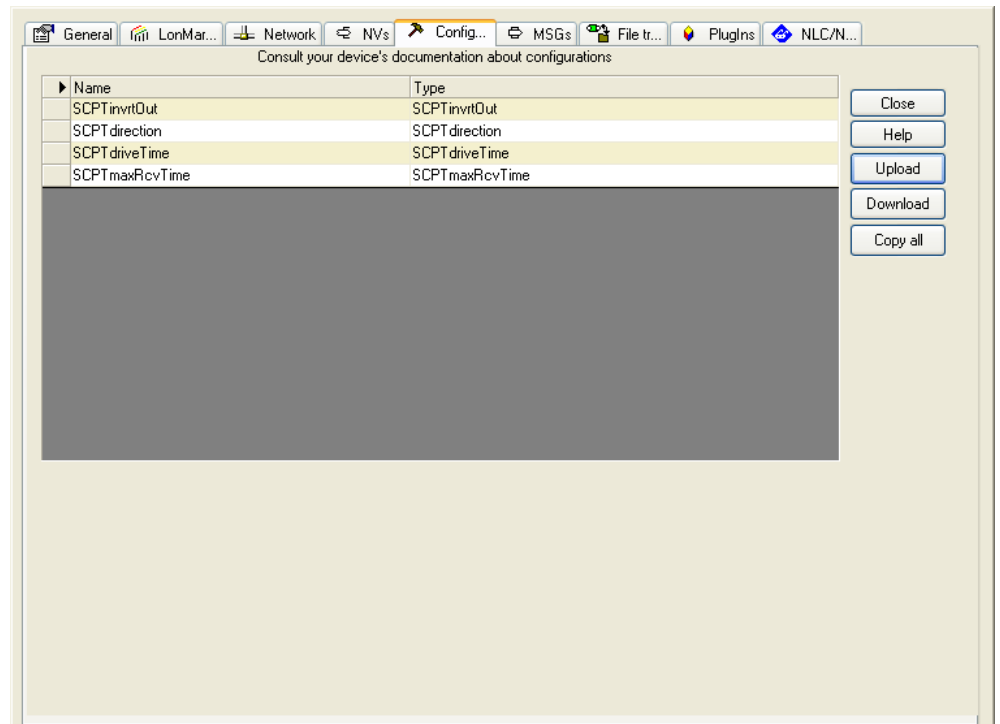

Figure 99: Configuration Tab for Configuration Properties in NL220.
2. Press the **Upload** button on the Configuration tab of the device properties (see Figure 99).